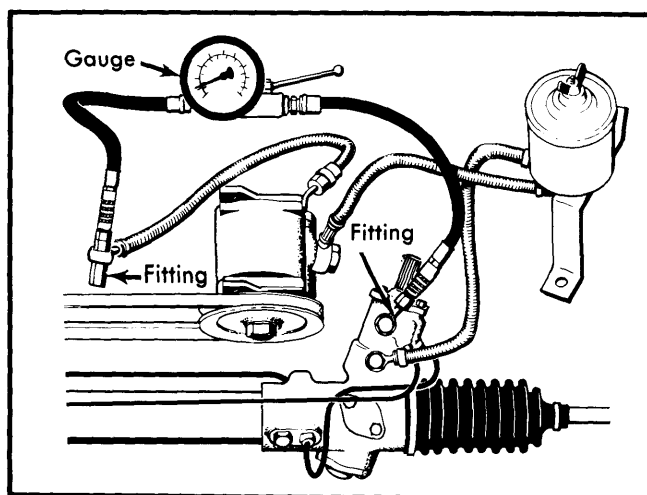

Fig. 1 Pressure Gauge Test Set Up
**Testing** – 1) Connect a pressure gauge as shown in Fig. 1. Make sure oil in reservoir is at level mark. Place pressure gauge so it can be seen from the drivers seat.
1) – With pressure gauge connected as shown in Fig. 1, and engine at idle, turn steering wheel fully to left, then fully to right, pressing at end position for a maximum of 10 seconds. Correct pressure should be 895-995 psi (63-69 kg/cm2) for the Saginaw pump and 825 psi (58 kg/cm2) for the ZF pump.